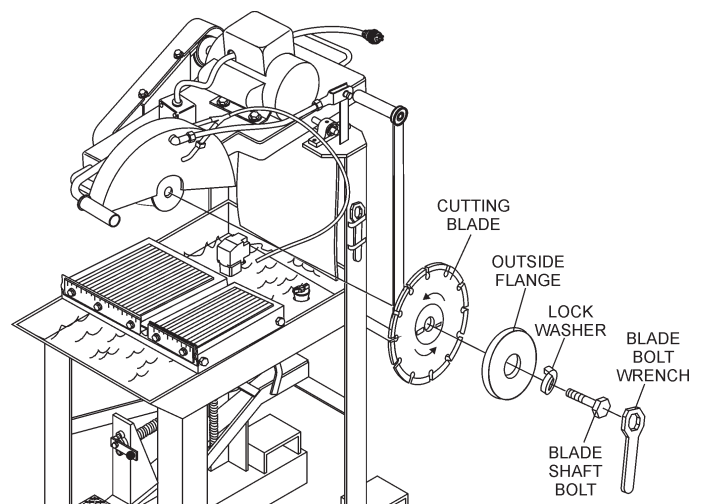

Figure 10. Blade Placement
1. Use the **blade bolt wrench** (Figure 10) supplied with the saw to install the cutting blade.
## Connecting the Power (Figure 10)